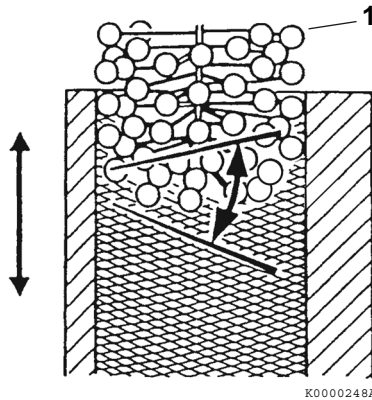

Figure 6-82
Note: When honing a cylinder, with either a ridged hone or a ball hone (**Figure 6-82, (1)**), move the rotating hone up and down in the cylinder bore to accomplish a 30° to 40° crosshatch pattern (**Figure 6-82**). This will provide the ideal surface for the proper seating of new piston rings.